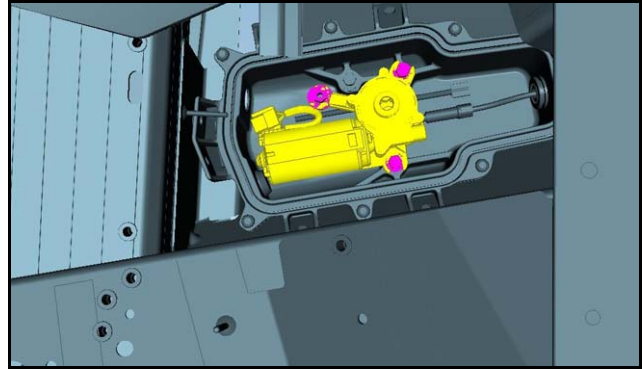

Figure 16
3. Install the new latch motor (Refer to Figure 16).